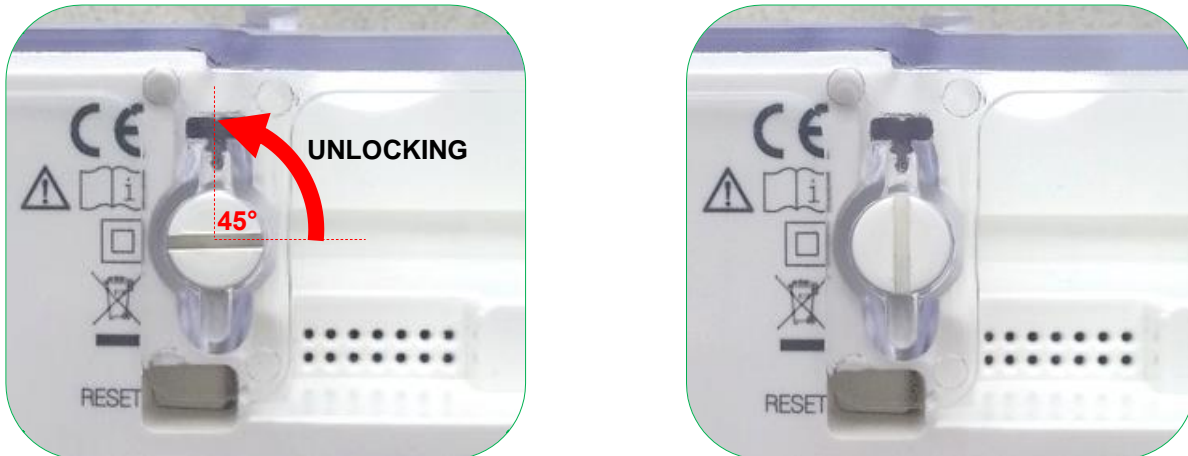

Figure 50: Unlocking device-cover locking cap (left: locked; right: unlocked)
1. Unlock device-cover sealable locking cap (Figure 50) and remove the device cover.